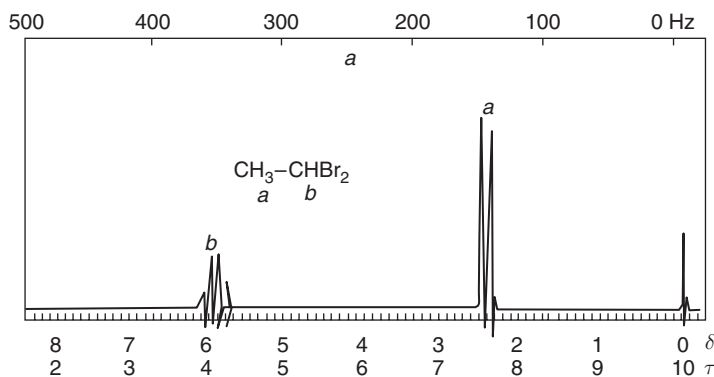

Figure 38 NMR spectrum of $\text{CH}_3\text{-CHBr}_2$.
2. **1,1-Dibromoethane:** The spectrum (Figure 38) shows two different signals (a) doublet at 2.5, 3H (CH_3) and (b) quartet at 5.85, 1H (CH) revealing the two different magnetically equivalent